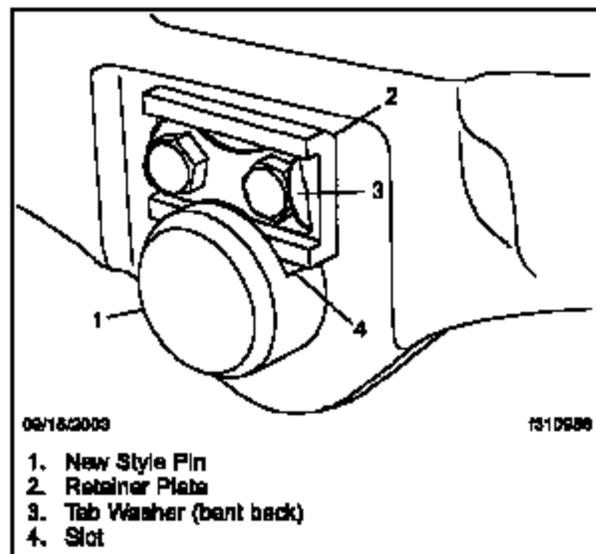

Fig. 3, Pivot Pin Installation
8. Orient the retainer plate with the extrusion facing outwards and the chamfer at the top, then install it into the slot in the pivot pin. See Fig. 3. Use a rubber or wooden mallet to tap the pin and retainer snug against the fifth wheel top plate.